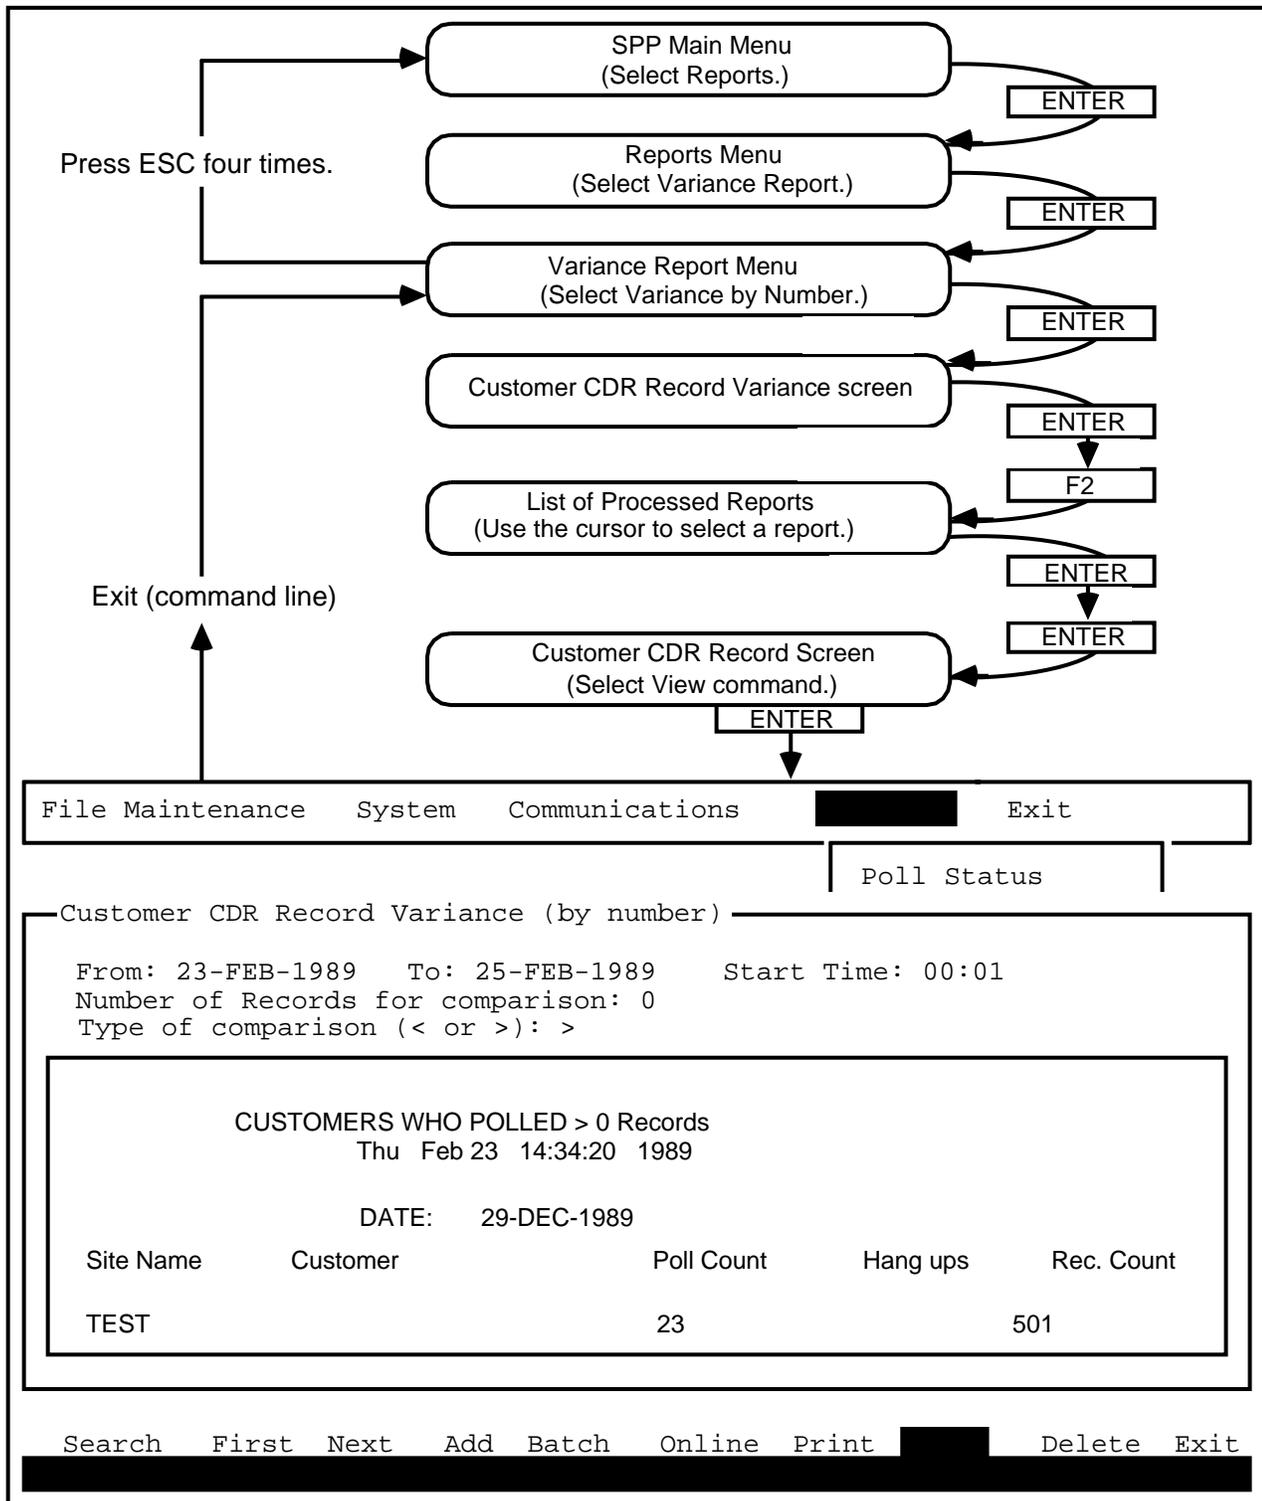

Fig. 6-3
6.07 To select and view processed variance by number reports (see Fig. 6-3) proceed as follows: